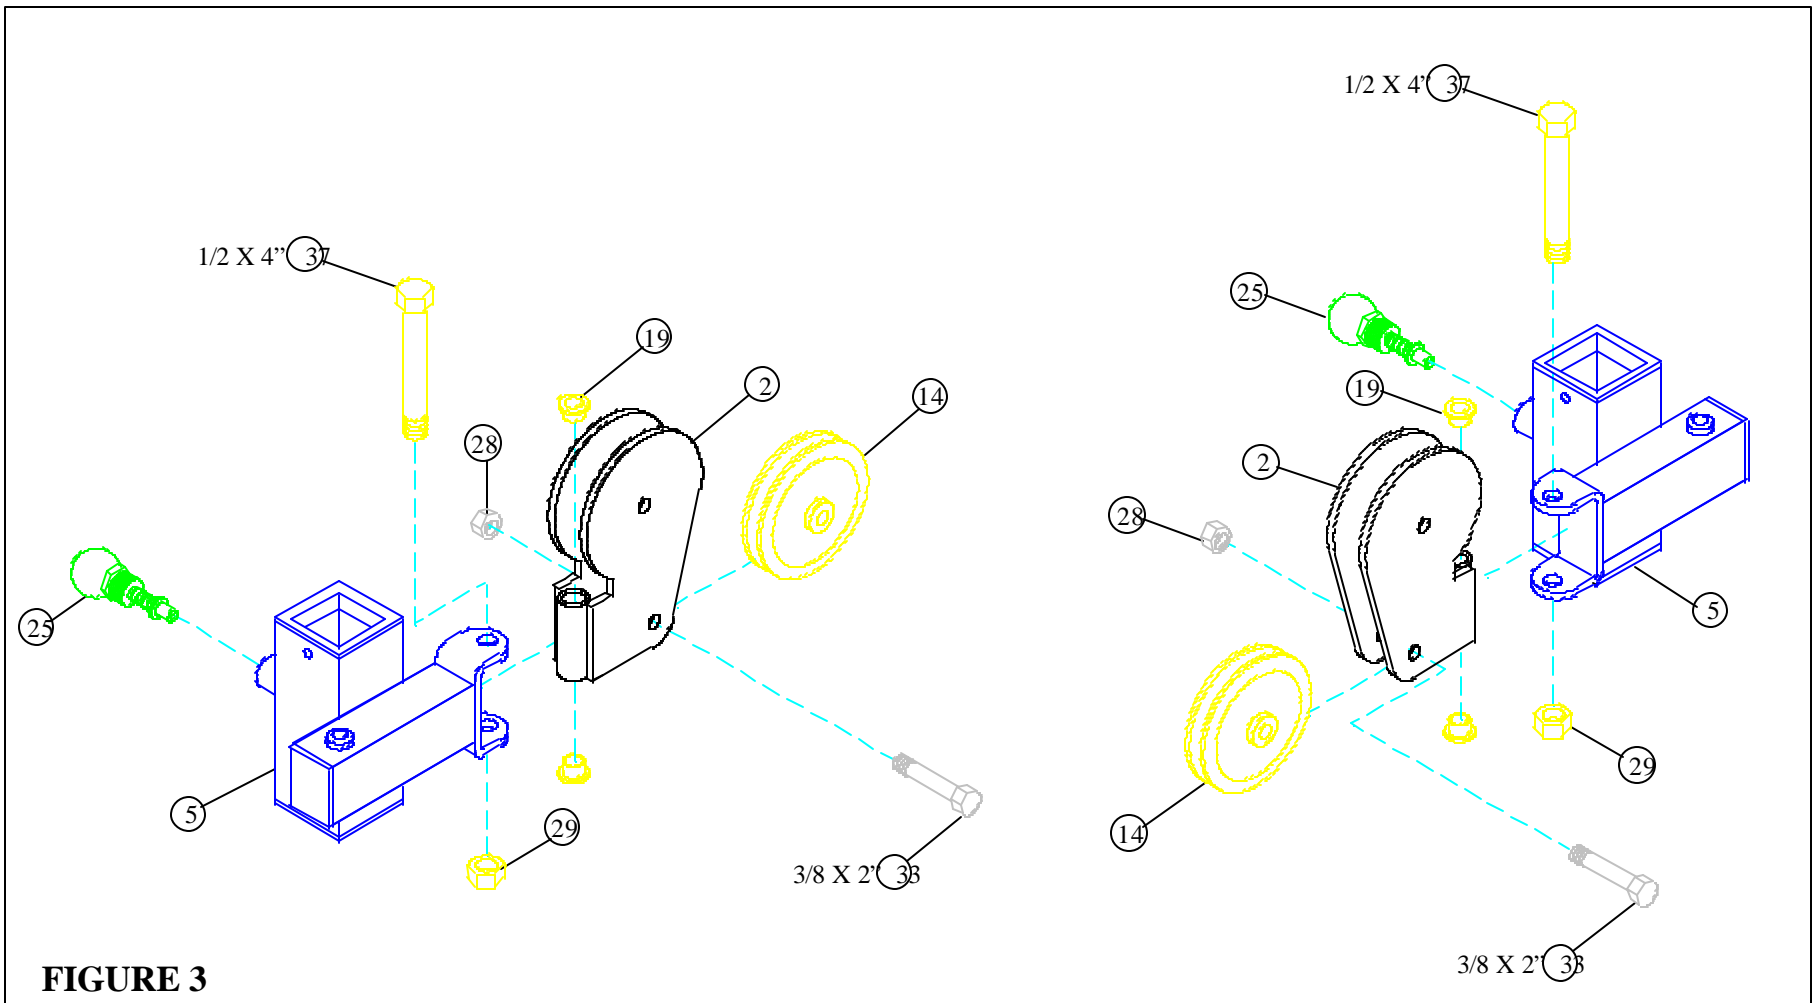

FIGURE 3
- **SECURELY** assemble two 3-1/2" PULLEYS (14) to the two NOVATRAK SWIVELS (2) using two 3/8 X 2" BOLTS (33) and two 3/8" LOCK NUTS (28). See FIGURE 3.
- Insert two 1/2" FLANGE BEARINGS (19) into each end of the NOVATRAK SWIVELS (2) and assemble them to the SWIVEL HOLDERS (5) using two 1/2 X 4" BOLTS (37), and two 1/2" LOCK NUTS (29). (**NOTE: Tighten connection enough to remove play, yet allowing the SWIVEL HOLDER (2) to rotate freely.**) See FIGURE 3.
- **SECURELY** assemble two 3/8" SPRING PIN ASSEMBLIES (25) to the SWIVEL HOLDERS (5). See FIGURE 3.